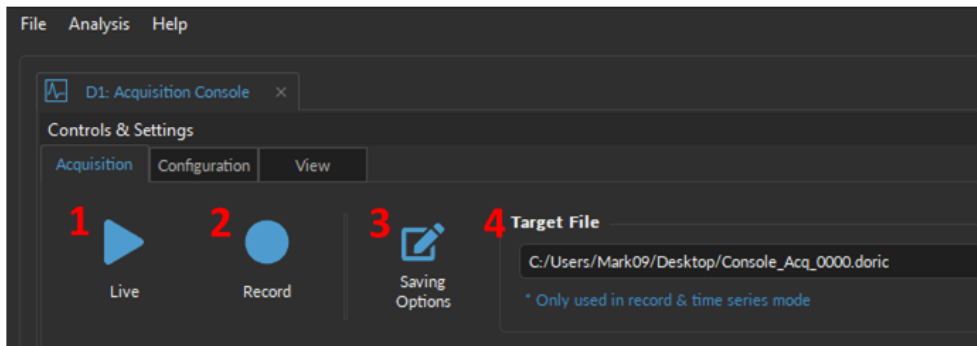
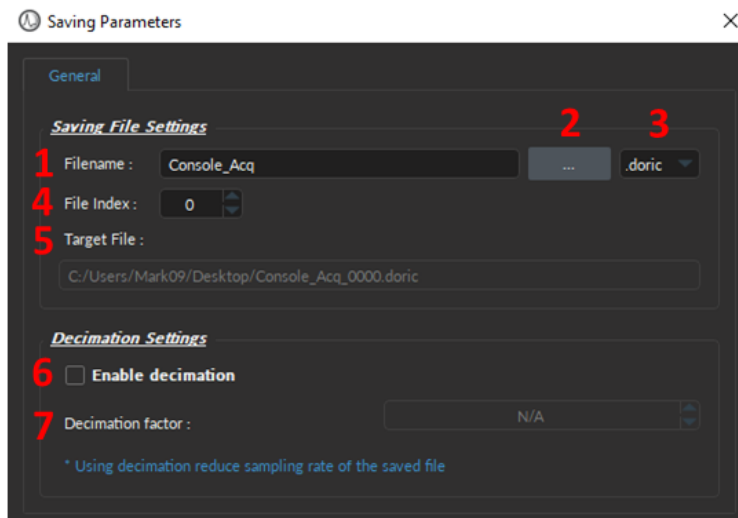

Figure 3.5: Acquisition Tab
Figure 3.6: Saving Menu Window
1. The **Live** button (Fig. 3.5, 1) activates all prepared channels. This mode does not save data, keeping only the most recent 700 000 data points in memory. This mode is not recommended for long or critical measurement sequences. **Live** mode is useful to quickly test the recording software and to ensure that the parameters were properly set.
2. The **Record** button (Fig. 3.5, 2) activates all prepared channels while periodically saving recorded data to the disk. This mode is recommended for long measurement sequences.
3. The **Saving Options** (Fig. 3.5, 3) button opens the **Saving Parameters** window (Fig. 3.6). See section 3.3.1.1 for greater details.
4. The **Target File** (Fig. 3.5, 4) displays the path and file name where the data will be stored once the **Record** button is selected. Select the **Saving Options** button to change the path and file name.
The **Saving Parameter** window is used to define how and where the file is saved. This window is opened by selecting the **Saving Options** button in the Acquisition Tab (Fig. 3.5, 3).
1. The **Filename** text-box lets users specify the name of the data file that will be saved (Fig. 3.6, 1).
2. The **[...]** button opens a File Explorer window where users can select the folder where the data will be saved (Fig. 3.6, 2).
3. The **File format** (Fig. 3.6, 3) is **.doric**, an HDF5-based format that supports metadata (signal, video, images, tables, parameters, etc.). Version 6 of *Doric Neuroscience Studio* is no longer compatible with other file formats (.csv, .excel, or .tiff). We provide Matlab, Python, and Octave codes to read **.doric** files HERE. While not recommended, it is possible to export a *.doric* file into .csv format through the **Doric File Reader** module.
4. The **File Index** (Fig. 3.6, 4) box is used to define the current indexation number used for multiple files saved during the same measurement session. The suffix is incremented automatically when recording multiple files.
5. The **Target File** (Fig. 3.6, 5) displays the absolute path and filename where the data will be saved.
6. The **Enable decimation** checkbox (Fig. 3.6, 6) provides a way to reduce the file sizes. This method conserves one point over a number of data points equal to the **Decimation Factor**.
7. The **Decimation factor** text-box (Fig. 3.6, 7) is used to define the number of points saved.1
- *Software Command* - The recording will start when the **Record** button is selected in the **Acquisition Tab** (Fig. 3.5, 2). The **Master Start** is, by definition, always **Manual**.
The **Time Series** Window (Fig 3.9b) can be opened by clicking on the **Record** button (Fig. 3.5, 2) when the **Master Trigger** is in **Time Series** mode in the **Global Settings** window (Fig. 3.8, 2). Every **Time series** sequence is automatically saved to the *.doric* file defined in **Saving Options** (Section 3.3.1.1).